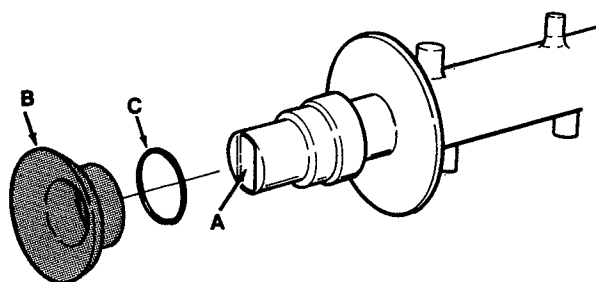
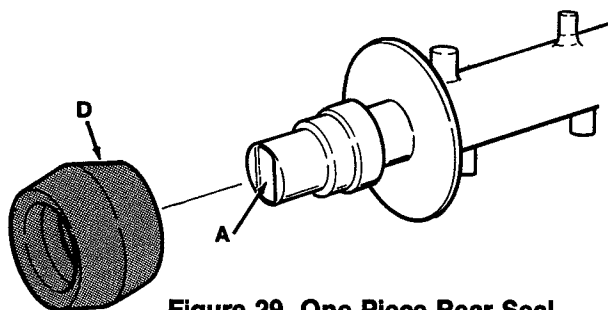

Figure 28. Two Piece Rear Seal
Figure 29. One Piece Rear Seal
- E. When the auger is out of the freezer barrel, use a paper towel to wipe the socket lubricant out of the auger drive socket. (See A, Figs. 28 and 29.)
- F. Determine which style rear seal you have. (See Figs. 28 and 29.)
- G. Remove rear seal (B) and "O" ring (C) (see Fig. 28) or remove rear seal (D) (see Fig. 29).